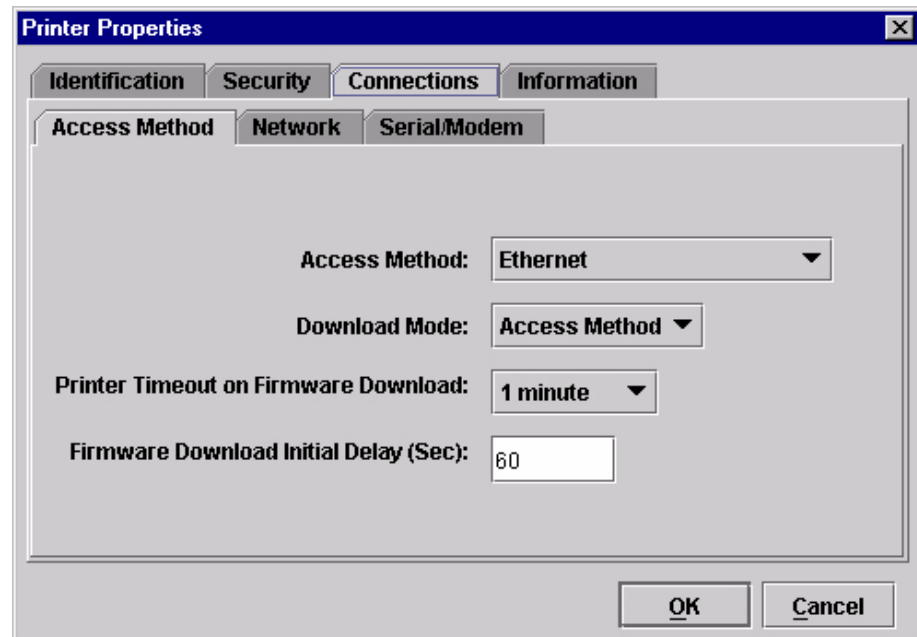

Figure 5. Connections: Connections Tab – Access Method Sub-Tab
10. Click the **Access Method** sub-tab. See Figure 5.